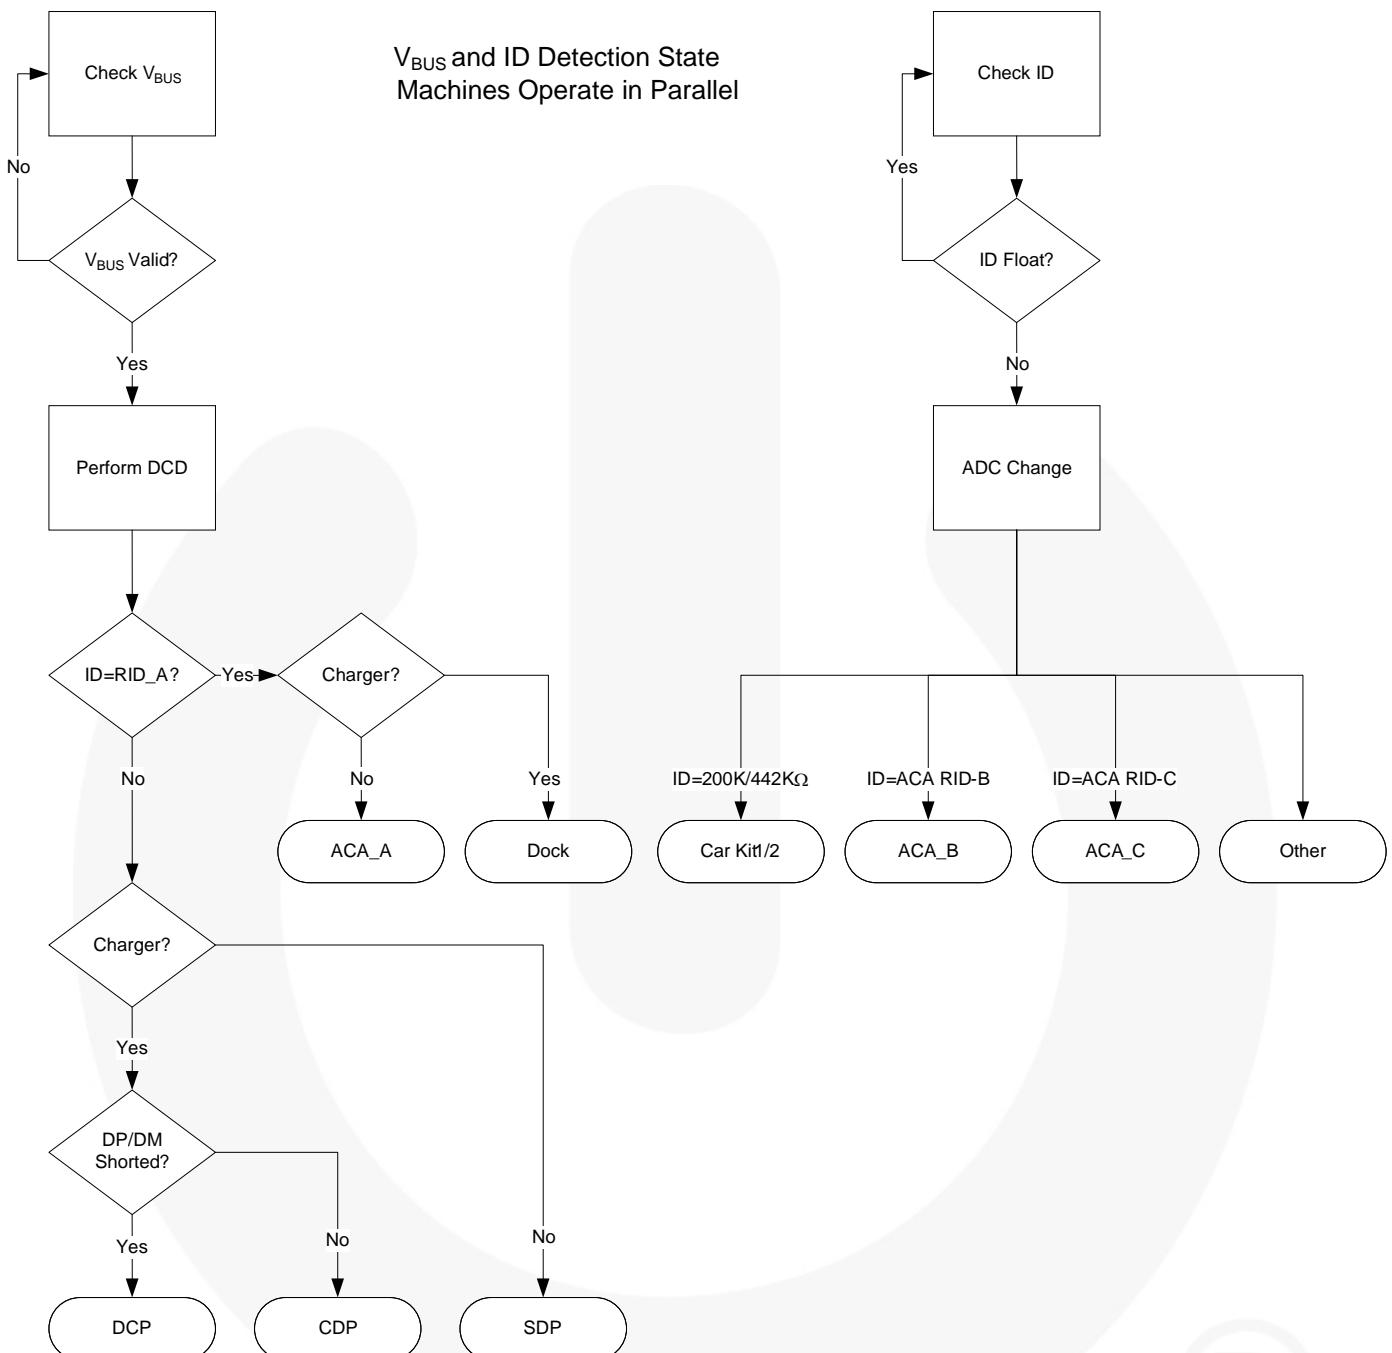

Figure 5. Accessory Discovery State Machine Flow Diagram
Examples of I²C write and read sequences are shown in Figure 4 and Figure 5, respectively.
The USB detection flow is shown in Figure 5. Note that the INTB Mask bit in the Control register must be cleared after a reset or power-up before interrupts can be signaled by the FSA9285A. Individual Interrupt Masks bits can be enabled by writing the Interrupt Mask register (see Table 6).
3. Figure 5 illustrates operation with a valid V_{DDIO} supply voltage. Figure 5 does not illustrate Dead Battery Provision (DBP) See Section 9 for details.